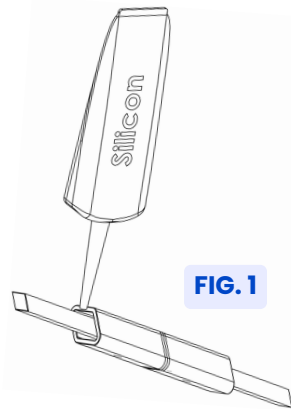
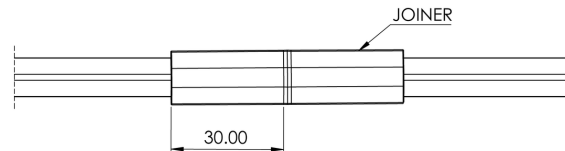

FIG. 1
FIG. 2
1. Apply silicone inside the joiner slot (See Fig 1). Insert the extrusion and press its end into the joiner slot. Push until the extrusion reaches the end of the joiner. About 1.1 to 1.2 inches of extrusion should slide in the joiner (See Fig 2)